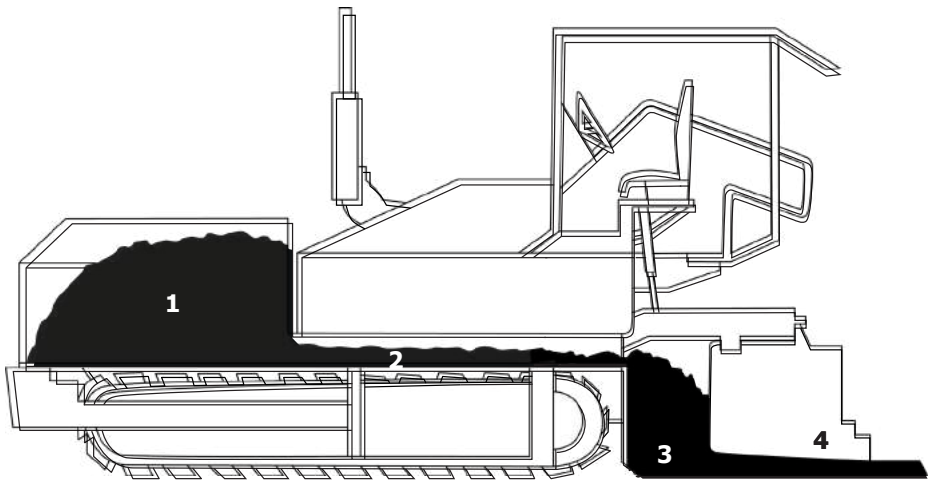

Figure 1 - Transport of material through the asphalt paver
Paving asphalt with a smooth surface requires a constant head of material in front of the screed as displayed in figure 1. The asphalt hot mix is delivered in the hopper (1) in the front of the asphalt paver, after which it is transported with the conveyor belts (2) to the augers (3) that distribute